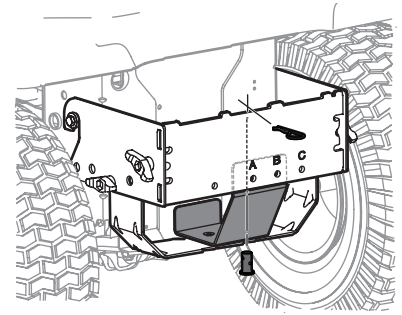

Figure 4
2. Install the support bracket (783-08856), included with the loose parts, into the mounting assembly as shown in Figure 4. Line the holes up as shown.
3. Install the clevis pin (711-0309A) from hardware pack 689-02364 into the tractor's hitch, the support bracket, and the mounting assembly and secure with a cotter pin (714-0117). See Figure 4.
4. Install the bracket, 785-08856, as shown in Figure 4, by using the bolt, nut, and washer from hardware pack 689-02835. Slot the bolt, 710-0376, into hole A then place the washer, 736-0159, and nut, 712-04063, onto the bolt from the inside of the hitch.